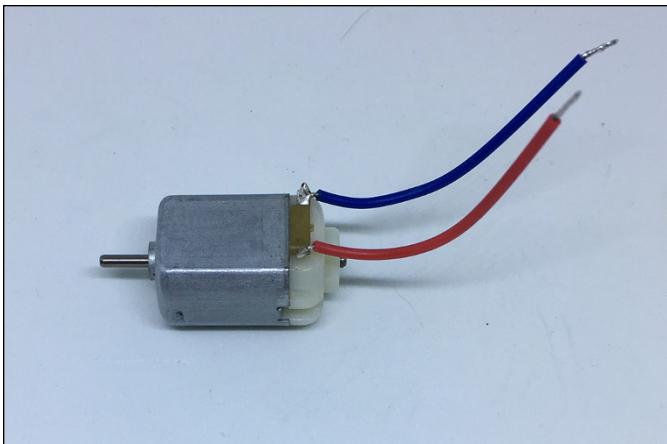
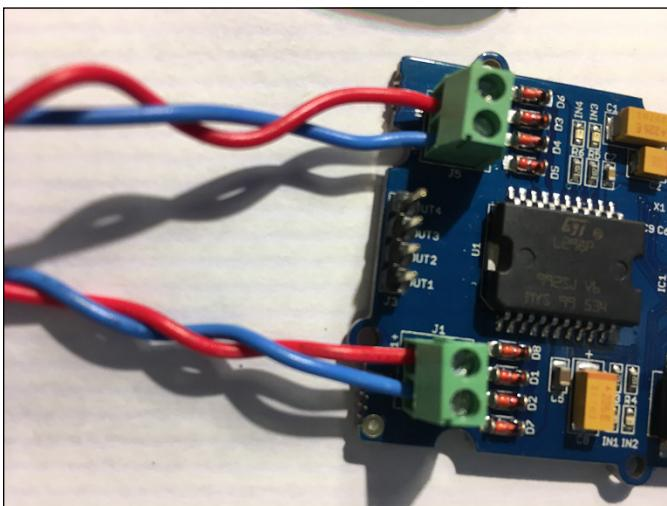

FIGURE 4-5:
FIGURE 4-6:
1. Loosen the set of two screw terminals on the end of the and insert the bare end of the wires on the motors (see Figure 4-5) into the holes and tighten the screws. (See Figure 4-6.)
Note that it really doesn't matter which color goes in which hole with a DC motor. It will just rotate in the opposite direction. Just match them both as in Figure 4-6. We added some length to the wires, but that is optional. Figure 4-7 shows the installed motor on your Grove I2C motor drive board.